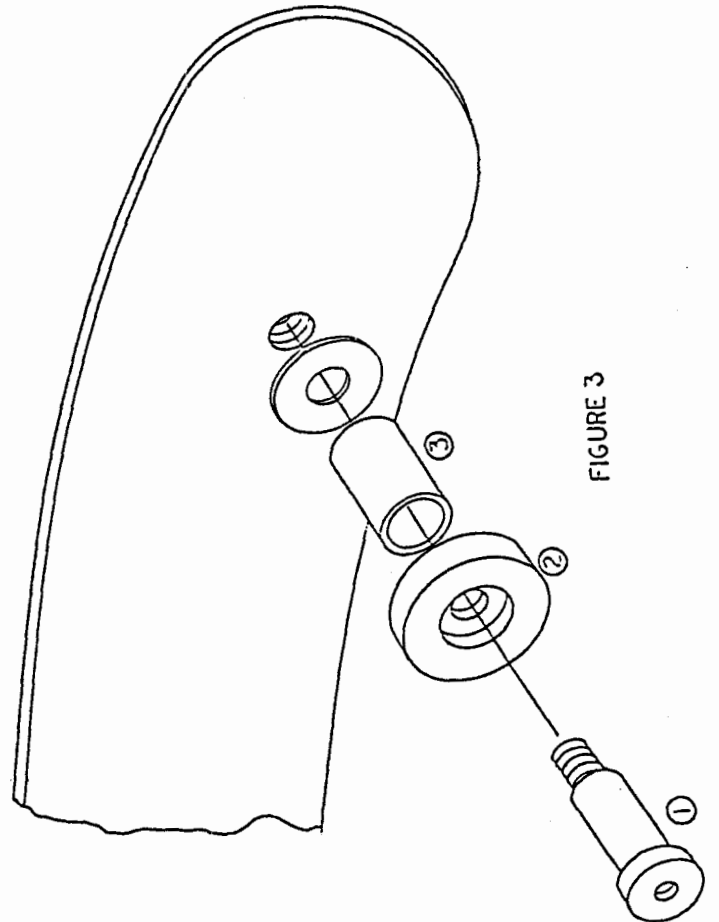

FIGURE 3
Carefully remove the sunroof from the carton marked "sunroof" and lay it on carpet or similar surface with the acrylic side down. Locate the four rollers, spacers and axle bolts in the carton marked "arm kit" (see figure 3). Push the roller (2) onto the axle bolt (1) so that the head of the bolt fits into the recess in the roller. Slide the metal spacer (3) onto the bolt **followed by a 3/8" flat washer** until only the threads are exposed. Locate the two 3/8" threaded holes on each end of the sunroof (one is toward the rear, and the other is in the lower center) and screw the axle bolts into the sunroof end plates. Be sure to insert the bolts carefully to guard against "cross threading", and tighten with the 1/4" allen wrench provided.